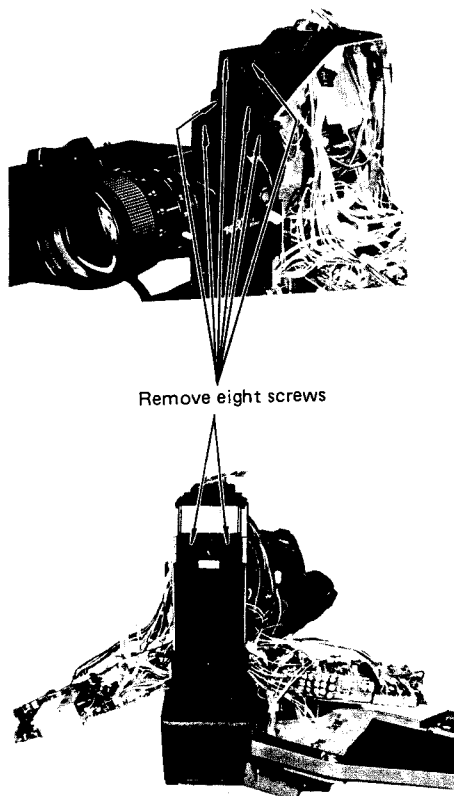

Fig. 3-1-3
- o Remove eight screws which hold the upper cover. (Fig. 3-1-3)